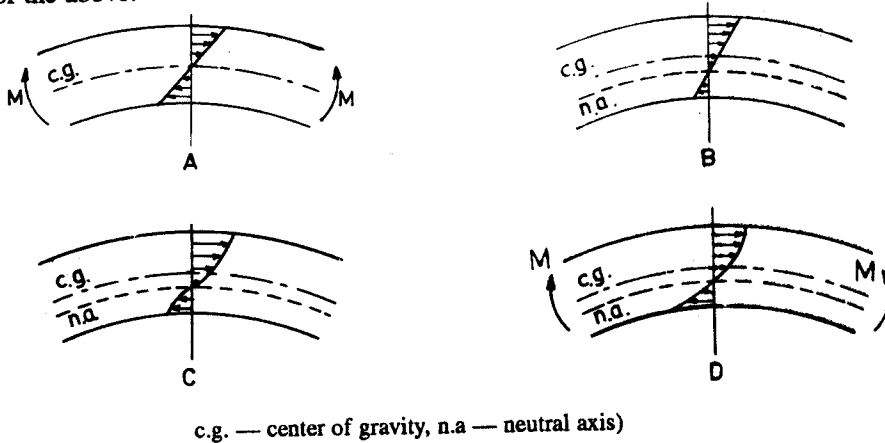

Fig. 53
98. Fig. 53 shows the distribution of bending stress in curved beam. The correct distribution is shown in the following part of Fig. 53.
Sol. (d) In curved beams, the neutral axis of the cross-section is shifted towards the centre of curvature of the beam, causing a non-linear distribution of stress. The magnitude of stresses is more on inner fibres and less on outer fibres as shown in part D of Figure 53.